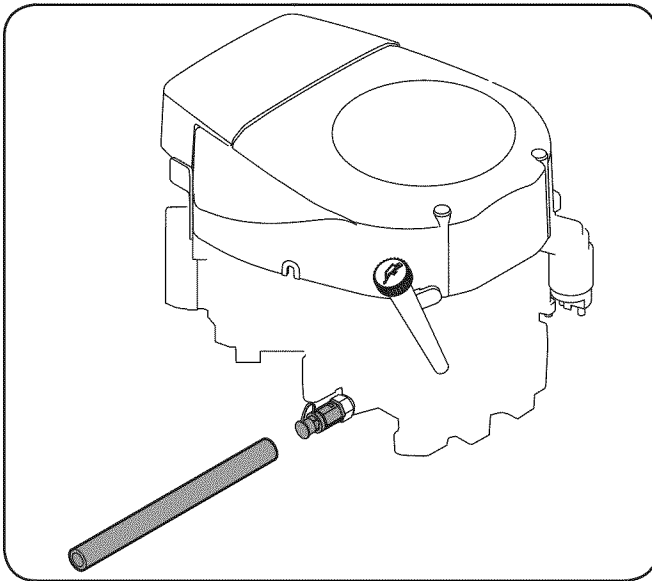

Figure 6-1
- Pop open the protective cap on the end of the oil drain valve to expose the drain port. Refer to Figure 6-1. Remove the oil fill cap/dipstick from the oil fill tube.